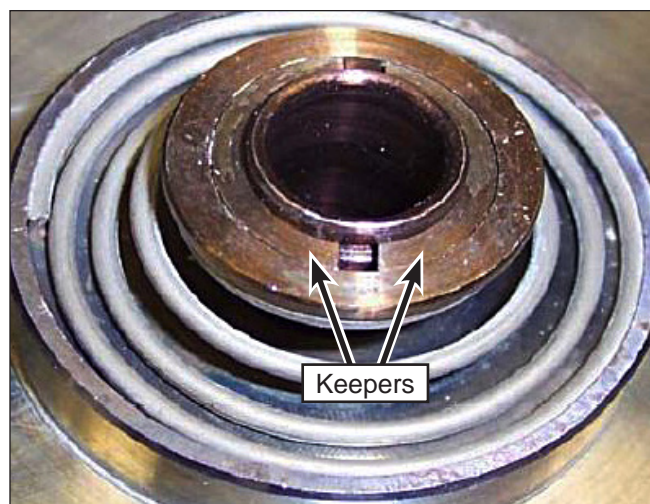

Figure 87: Installing the Keepers.
2. Position the valve spring and valve spring retainer into place on the suction valve. Press down on the spring retainer to insert the keepers (Figure 87).